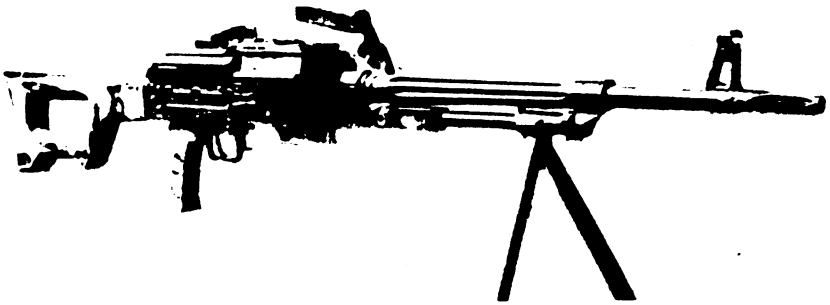

Figure 8
8. Identify The PK. (See fig. 8.)